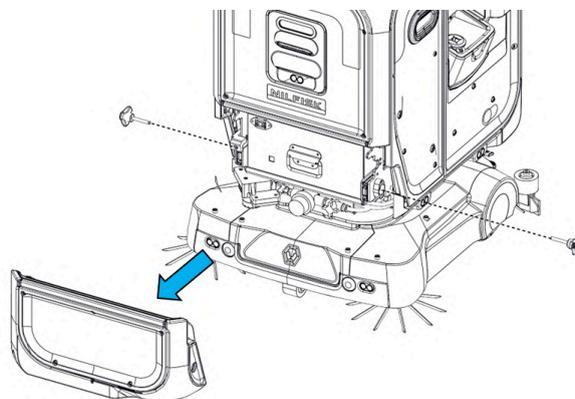

FIGURE 11-17
1. Remove the bottom front cover by unscrewing the 2 blue knobs until it can be removed as shown (**Fig. 11-17**).